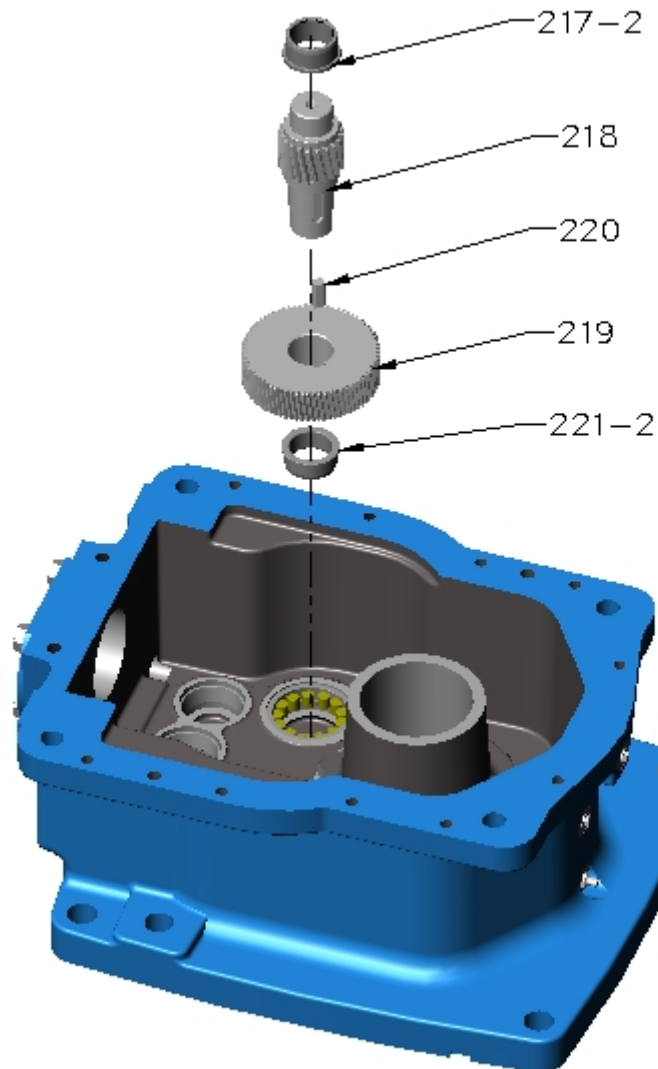

Figure 11 – 2nd Intermediate Shaft
- N. Remove 2nd intermediate shaft assembly (refer Figure 11).
- O. 2nd intermediate shaft disassembly (refer Figure 11):